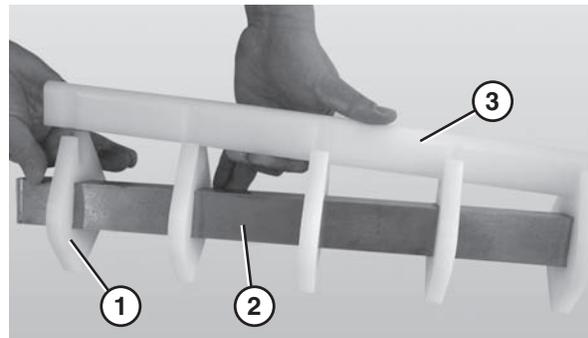

Figure 67
- Remove the nose bar wear strip (Figure 67, item 3).
- Slide the nose bar pucks (Figure 67, item 1) off the nose bar shaft (Figure 67, item 2).